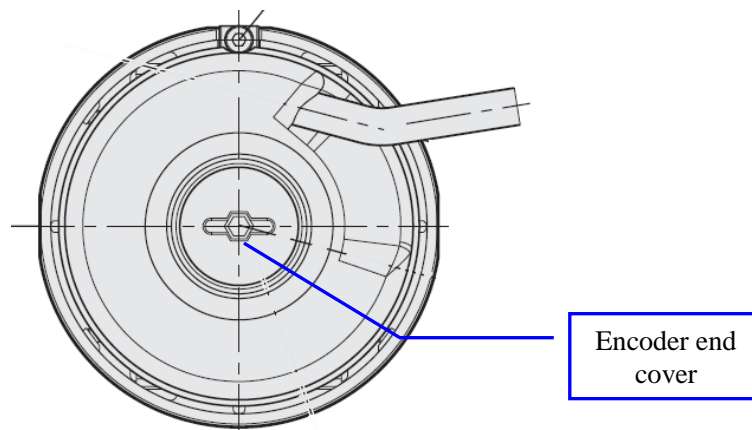

Figure 16: Remove end cover
1. Remove the end cover using either the 3mm hex wrench or the wide blade screwdriver. See Figure 16.
2. Remove the encoder cable (only for ECN1313 model). ECN413 model does not have the connector as shown below. See Figure 16.